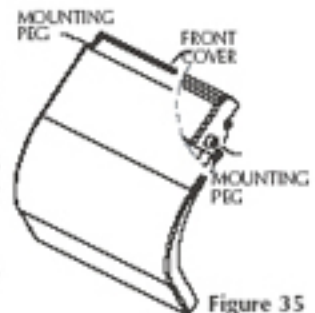
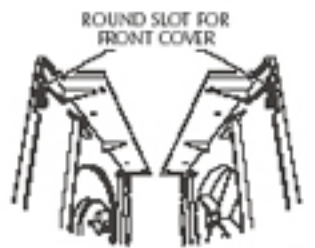

Figure 35
Figure 36
11. At the top rear of the front there are 2 mounting pegs (Fig. 35). These pegs will fit into round slots at the top/rear of both side panels (Fig. 36).